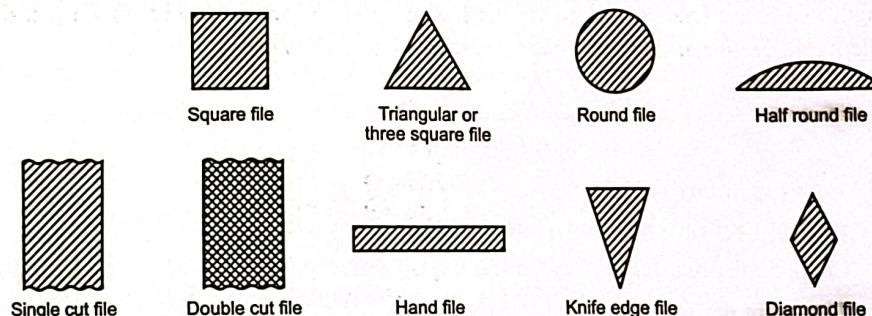

Fig. 1.37. Cross-sections of files.
2. Classification on the basis of shape and size : Files are available in various sizes and shapes. The length of files vary from 4" to 14" and the shapes are available in flat, square, round, triangular, half round files etc. as shown in Fig. 1.37.